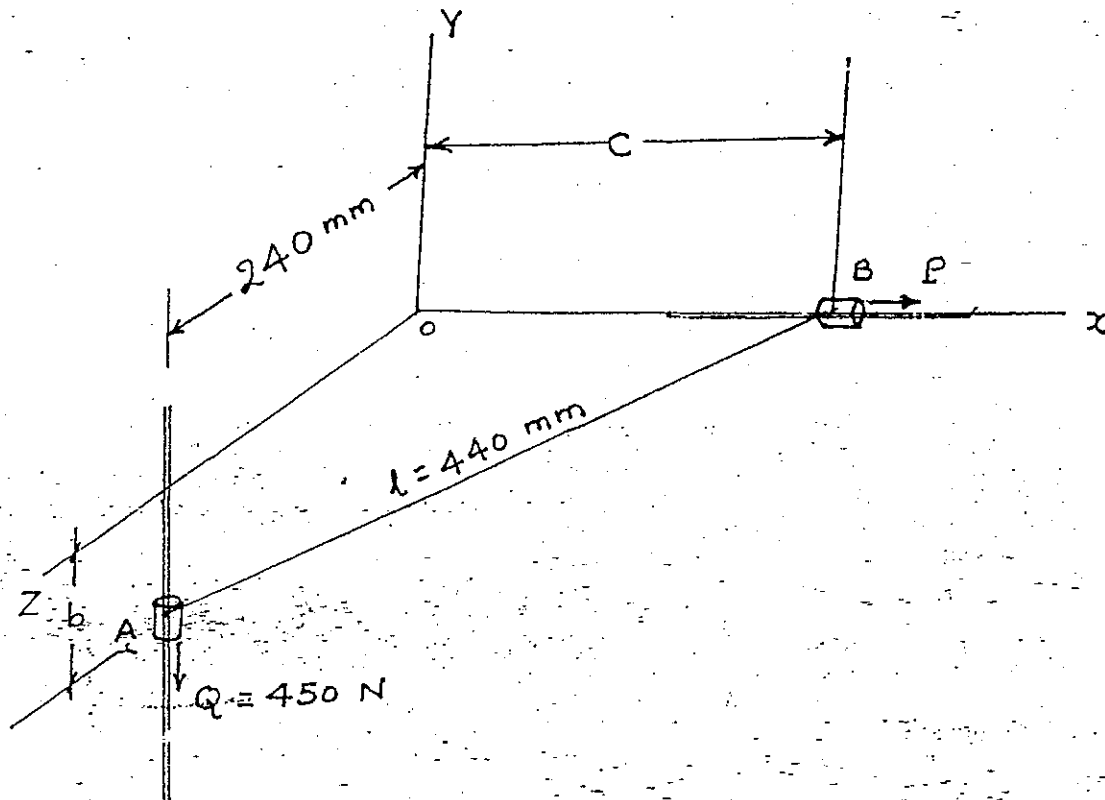

Fig 1
2. a) Collars A and B are connected by 440 mm wire and may slide freely on frictionless rods. If a force Q of magnitude 450 N is applied to collar A as shown in fig. 1, determine: